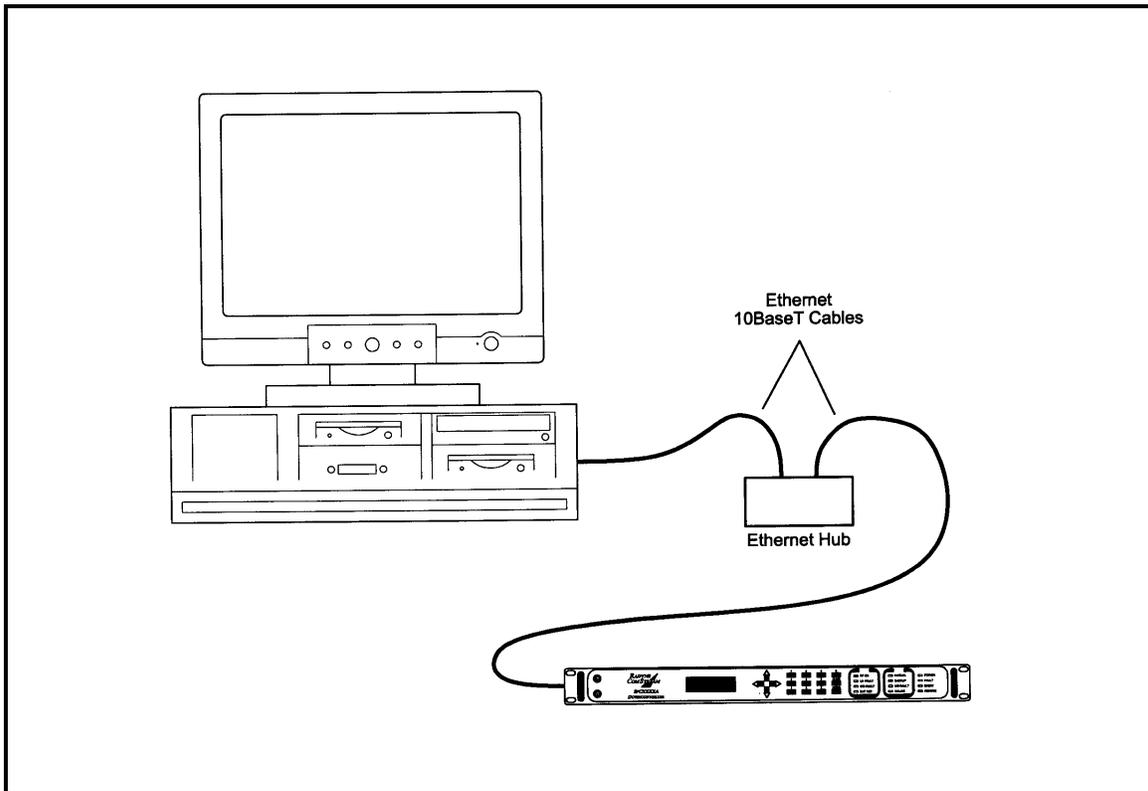

Figure 4-3. Ethernet Connection
1. Connect the computer to the upconverter Ethernet port (J9) using the RJ-45 to RJ-45 10 Base-T Cables via a hub as shown in Figure 4-3.